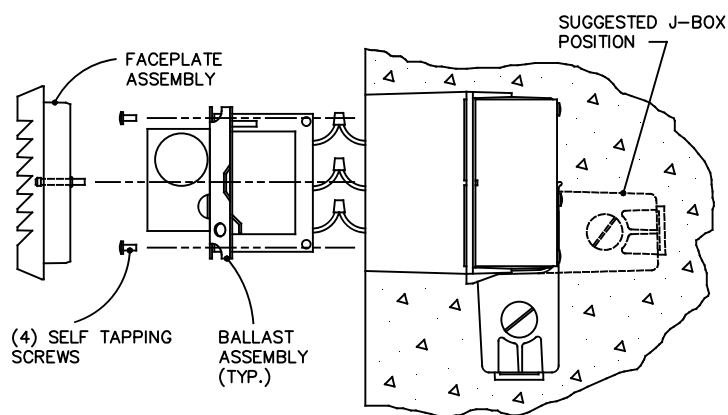

FIG. 3
5. Dress excess wiring and push into j-box. Reinstall j-box cover to completely cover splices. Attach ballast assembly into housing per fig. 3 using (4) self tapping screws provided in the housing.
7. Remove face plate assembly from shipping carton and install with mounting screws per fig. 3. Be sure mounting screws are snug, but do not over tighten. When installing the open face plate, take note of arrow on back indicating orientation.